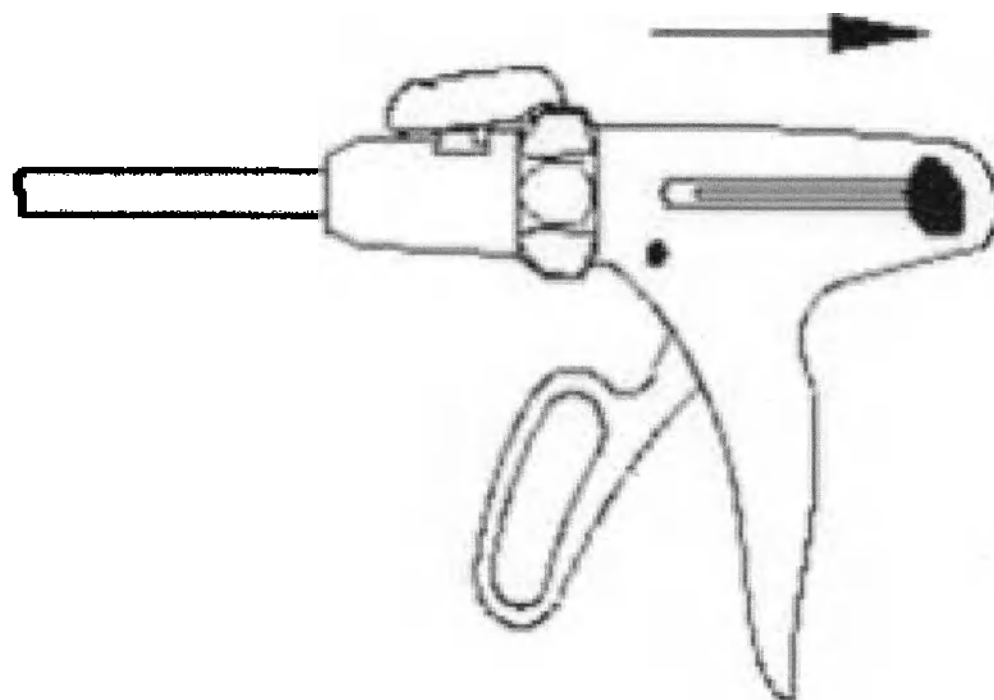

Figure 3.
3. To ensure proper charging, cycle the stapler after installing the cassette. Squeeze the handle once to close the cassette jaws. Pull back the black return handles and make sure the cassette jaws are fully open (Figure 3)